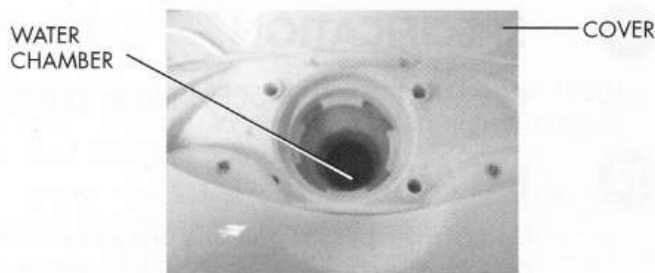
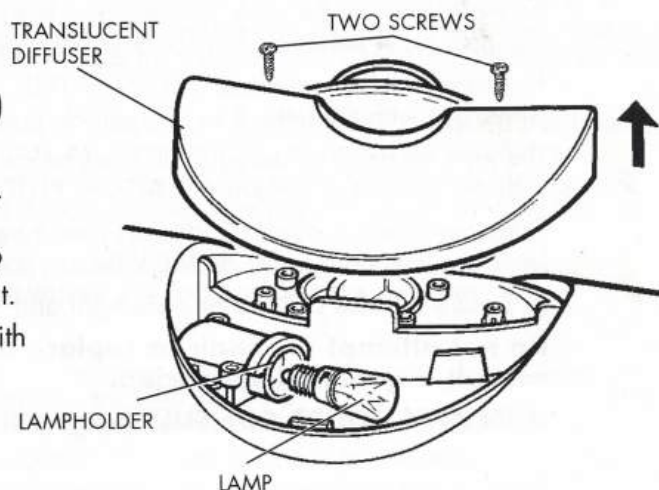

FIGURE 2
FIGURE 3
1. Lift the cover and remove the filler cap on the water chamber. Using the ceramic tea pot, fill the water chamber with water (Figure 2). The tea pot holds the maximum amount of water the chamber can hold, therefore only use with this amount of water. Do not overfill otherwise water/steam may be ejected and spill over onto the appliance. Replace the filler cap, ensuring that the filler cap is firmly in position and locked by turning it in a clockwise manner. Close the cover.
To replace the lamp, lift the cover (Figure 2) and remove the two screws to remove the translucent diffuser (Figure 3). Unscrew the lamp from the lampholder. The replacement lamp must be of similar type and wattage. Telephone the Helpline on 0870 241 3029 and quote MM52186 for lamp replacement.
Replace the translucent cover and secure with the two screws (Figure 3).